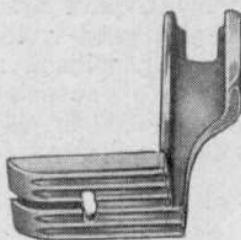
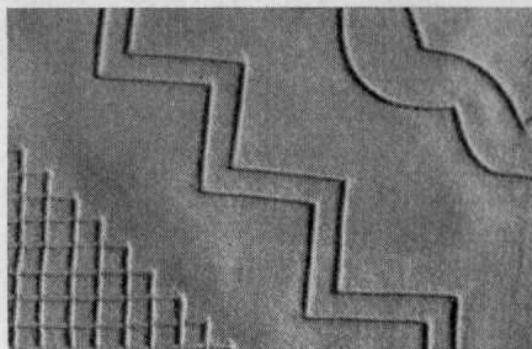

FIG. 59
FIG. 60
Thin dressgoods — use size 9 needle, closest needle distance, do not raise folder blade above surface of needle plate. Upper and lower thread tensions should be quite tight. Use presser foot with five narrow grooves at bottom shown in fig. 59.
Heavier dressgoods — use size 11 not raise folder blade above needle plate. Maintain normal thread tensions. Use presser foot with five narrow grooves (fig. 59).
b. *Parallel "Straw" Folds*: The five grooves at the bottom of the presser foot shown in fig. 59 can be used as guides to sew a parallel fold to one already made. Let the preceding fold "ride" in one of the grooves depending on the desired spacing and a whole group of folds can be spaced exactly alike. (Fig. 60.)